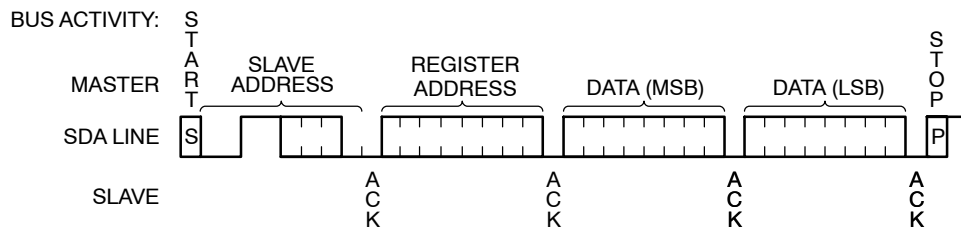

Figure 12. Temperature Sensor Register Write
To write data to a TS register the Master creates a START condition on the bus, and then sends out the appropriate Slave address (with the R/\overline{W} bit set to '0'), followed by an address byte and two data bytes. The matching Slave will acknowledge the Slave address, TS register address and the TS register data (Figure 12). The Master then ends the session by creating a STOP condition on the bus. The STOP completes the TS register update. Note that all registers in the TS are 'volatile' meaning any data contained in them is lost when power is removed from the chip.
11. Writing a '1' to this bit clears an event condition in Interrupt mode, but has no effect in comparator mode. When read, this bit always returns 0. Once the measured temperature exceeds the critical limit, setting this bit has no effect (see Figure 12).